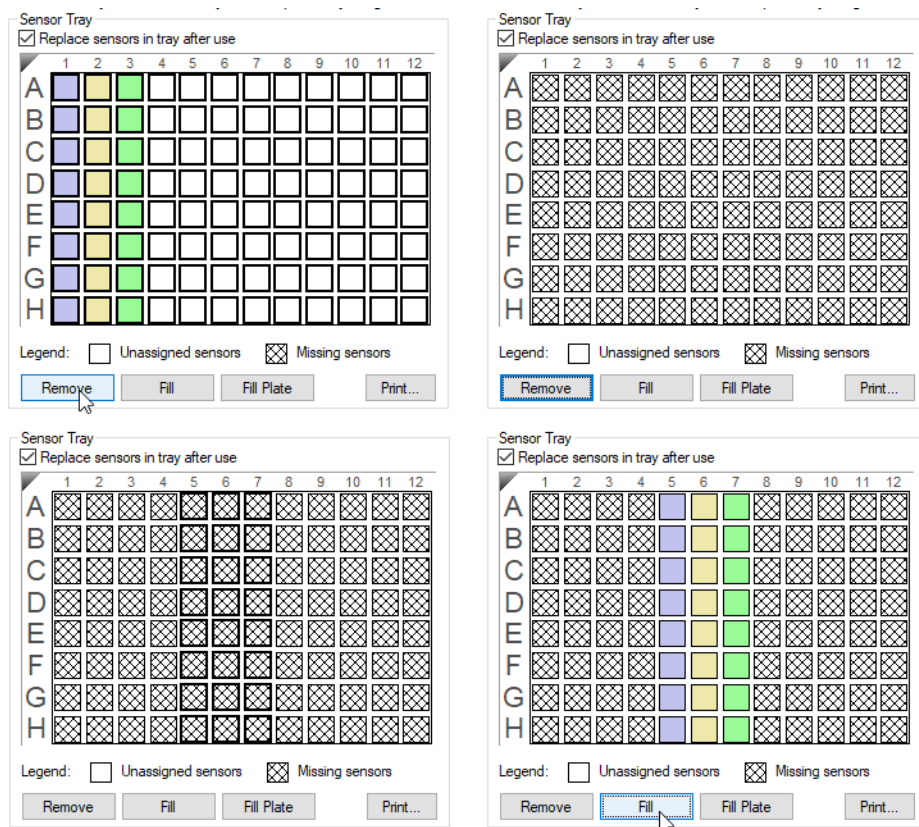

Figure 9-47: Changing Biosensor Location (Method 2)
1. In the **Sensor Tray Map**, select all of the columns and click **Remove** (Figure 9-47 top left). Or, right-click the selection and select **Remove**. All columns will be shown as **Missing** (Figure 9-47 top right).
2. Select the column(s) to use and click **Fill**. Or, right-click the selection and select **Fill** (Figure 9-47 bottom left). The software fills the selected columns in the tray (Figure 9-47 bottom right).